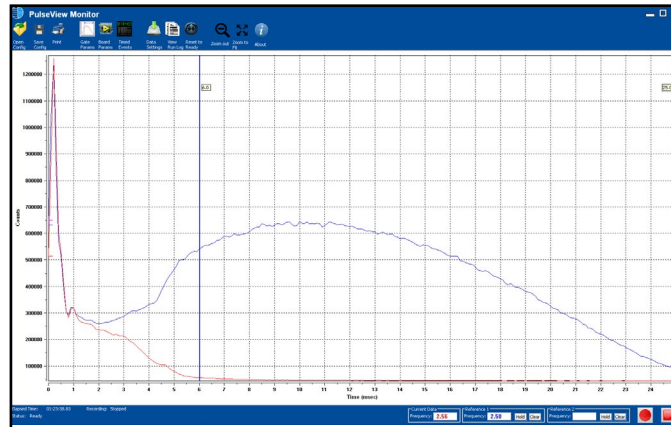

Figure 6.5. Sulfur Emission and Gate Settings for Maximizing Sulfur Response Using a 2-mm Combustor
- In the Gate Parameters screen, set the integration gate's start and stop times (recommend 6 ms and 24.9 ms respectively) to optimize sulfur detectivity. If the gas flow rates are properly set, the sulfur emission extends to 24 ms or beyond for 2-mm combustors (Figure 6.5).
4. Delay the gate start time relative to that shown in Figure 6.5 (i.e., increase the gate A **Start Time** in the Gate Parameters screen to 6-8 ms), minimizing the hydrocarbon and sulfur response overlap. Due to the sulfur emission's long time domain, a correctly delayed gate virtually eliminates carbon interferences without using dual gate techniques.